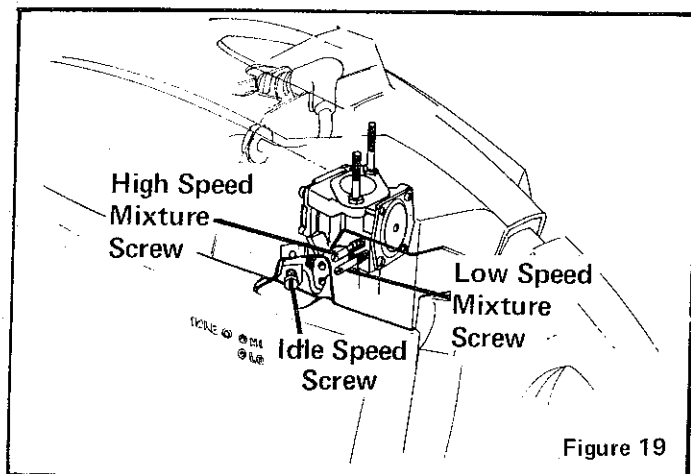

Figure 19
1. Turn the high speed and low speed mixture screws clockwise  until they stop. DO NOT TIGHTEN OR FORCE THE SCREWS ANY FARTHER! YOU MAY DAMAGE THE NEEDLE SEATS. Turn the high speed and low speed mixture screws 1 full turn counterclockwise.  Figure 19.